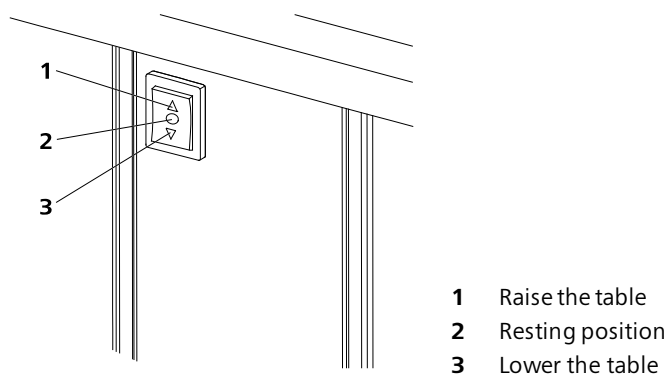

Fig. 8 Rocker switch for adjusting table height
- Operate the rocker switch on the lifting column according to the symbols on the rocker. The table will move in the desired direction: either up (1, Fig. 8) or down (3, Fig. 8).